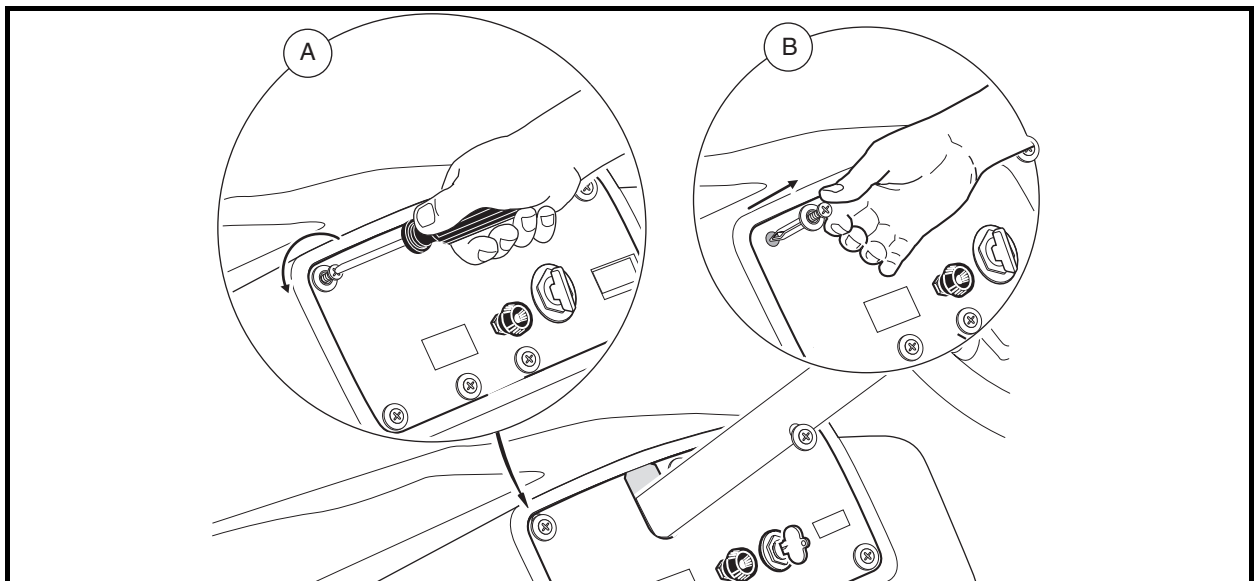

Figure 19-1 Dash Removal
- 3.1. Loosen seven Tuflok screws, but do not remove screws completely, as shown in Detail A. **See Figure 19-1, Section 19, Page 19-1.**
- 2.1. Loosen seven Tuflok screws, but do not remove screws completely, as shown in Detail A (**Figure 19-1, Page 19-1**).